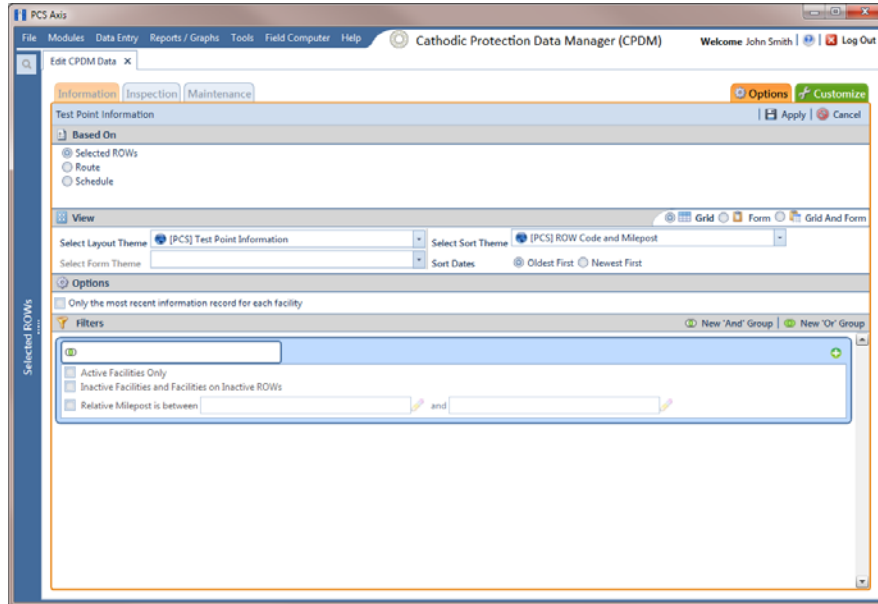

Figure 8-14. Options
- 8 Click  **Save**, then click the **Options** tab  to open the options page (Figure 8-14).